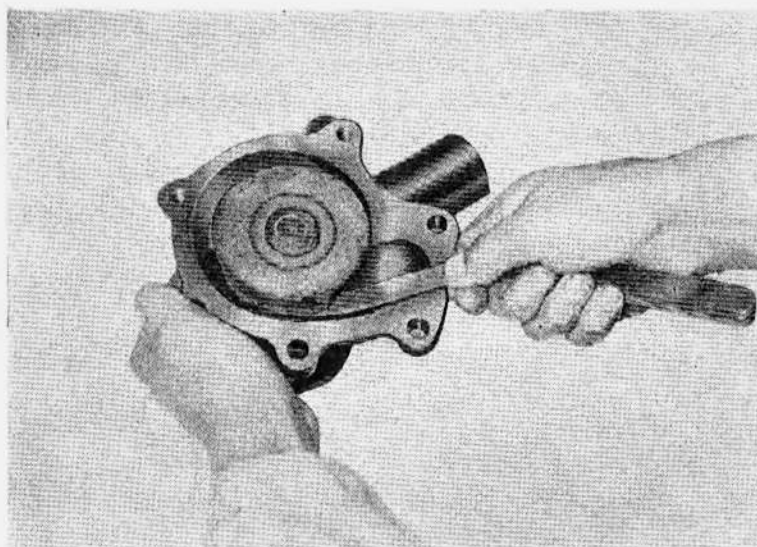

Figure 166 – Checking Clearance between Face of Rotor and Pump Body
(6) Check clearance between face of rotor and pump body (Fig. 166). This clearance should be 0.5mm.
(7) Install pump plate to pump body using a new gasket, install screws, tighten securely and stake in place.